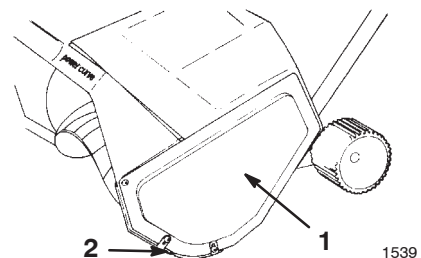
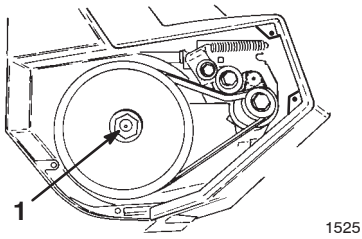

Figure 15
Figure 16
Note: If you cannot remove the rotor shaft by holding the rotor, remove the left side cover and the skid (Fig. 15). Hold the hex nut with a 7/8-inch wrench while unscrewing the rotor shaft (Fig. 16).
1. Remove the 3 screws that secure the left side plate to the snowthrower frame (Fig. 15). Remove the side plate and the skid.
1. Remove the screws that secure the left side plate and the skid to the snowthrower frame (Fig. 15), and remove the side plate and the skid.